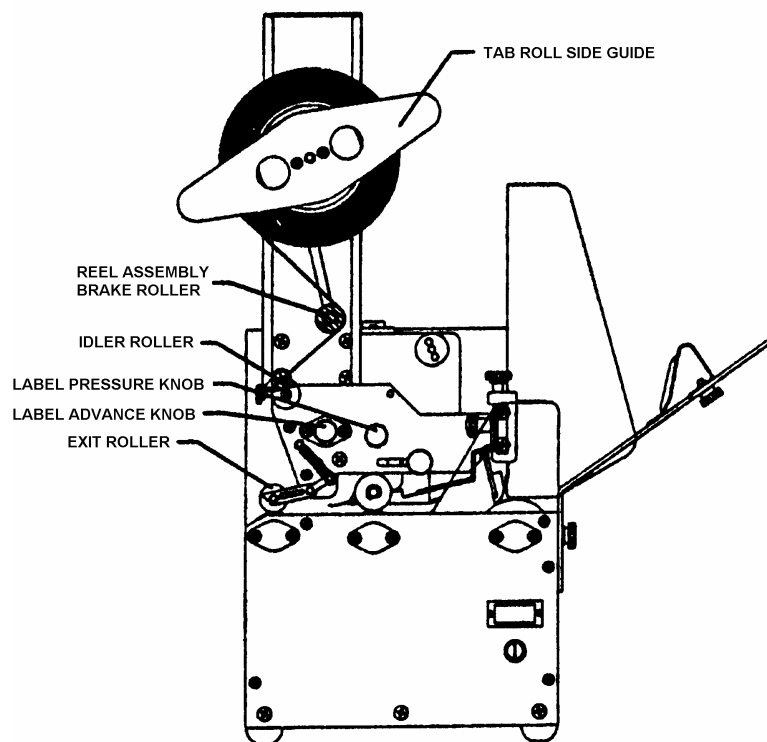

Figure 5
1. Remove TAB ROLL SIDE GUIDE (Fig.5).
5. Remove EXIT ROLLER (Fig. 5).
6. Thread tab stock behind REEL ASSEMBLY BRAKE ROLLER (fig. 5) and in front of IDLER ROLLER (Fig. 5).
8. With LABEL PRESSURE KNOB **ON**, use LABEL ADVANCE KNOB (Fig. 5) to advance tabs until tab begins to peel.
3. Turn LABEL PRESSURE (Fig. 5) **OFF** and roll tabs backward until just backing paper is visible in sensor holder. Turn one click at a time clockwise until LED comes on. Counting the clicks, turn counterclockwise half the number that you just counted. (Example: the LED illuminates for the first time at position four and a second time at position 10. The difference between the two positions is six clicks. Turn back half that number or 3 clicks to position 7).
4. With LABEL PRESURE **ON**, use LABEL ADVANCE KNOB (Fig. 5) to advance until tab starts to peel away from backing paper.